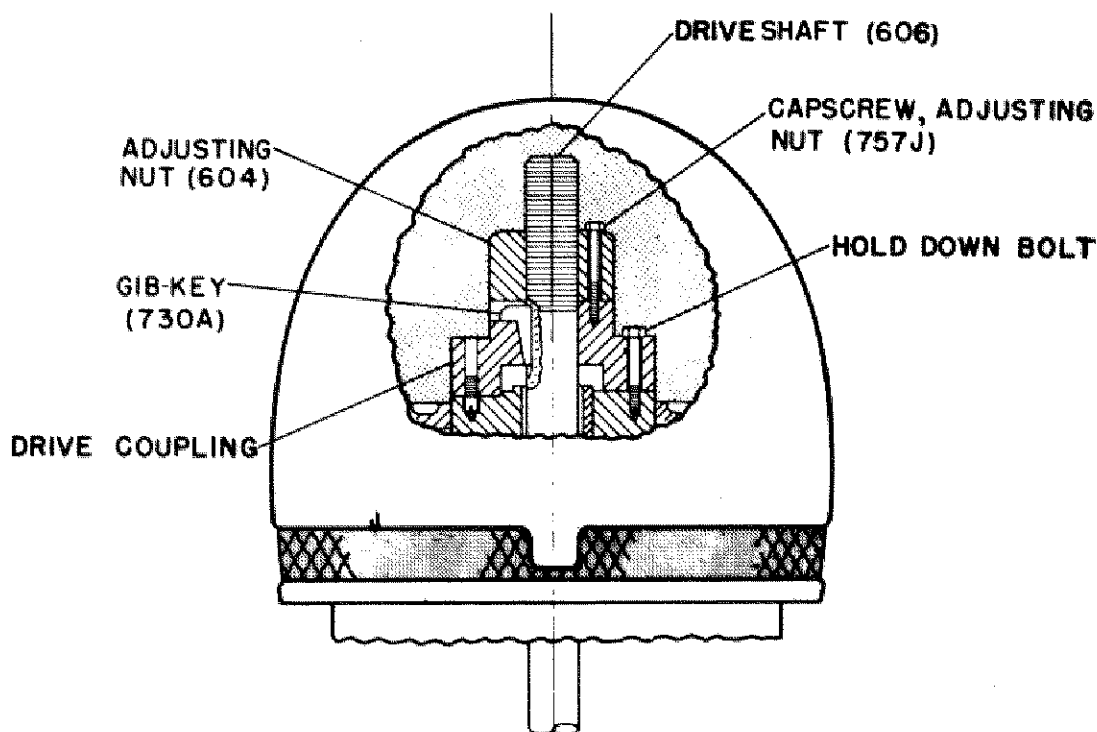
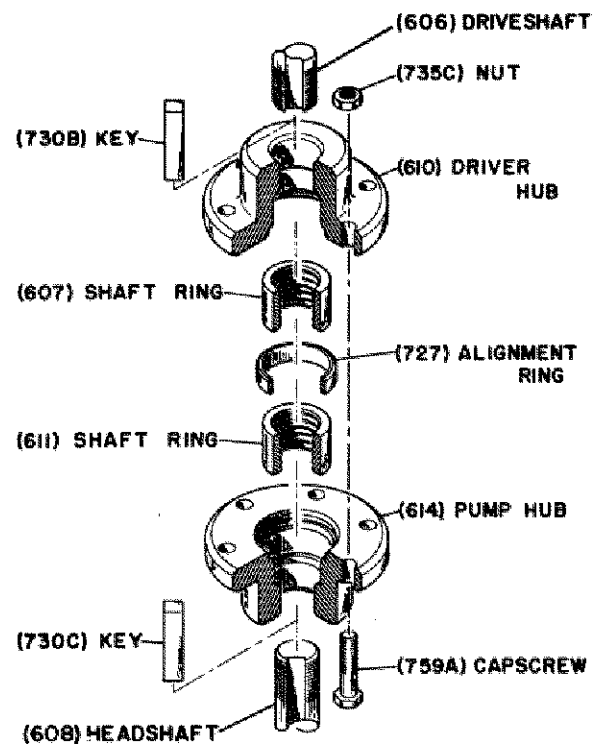
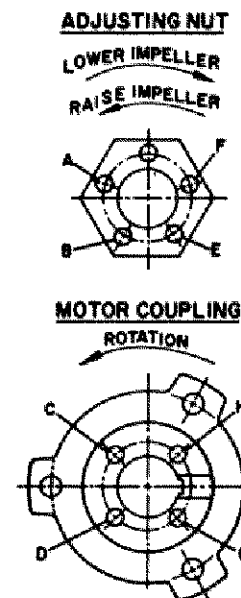

FIGURE 10-2. HOLLOW SHAFT ADJUSTING NUT
FIGURE 10-3. RIGID COUPLING
FIGURE 10-4. IMPELLER ADJUSTMENT
F. Slip on drive coupling. (See Figure 10-2.) Apply a thin film of oil on gib key (730A) and install key. Key shall be a slide fit allowing adjustment of the driveshaft by means of the adjusting nut. Secure drive coupling, see that the drive coupling is properly seated. Lubricate bottom of adjusting nut (604) and install.
D. Disassemble the coupling (if assembled) and slide driver hub (610) onto the driveshaft with
key (730B) in place. Thread ring (607) onto the driveshaft and slide driver hub over ring. (See Figure 10-3.)
E. Thread ring (611) onto the headshaft (608). Install alignment ring (727) on pump hub (614) groove, slide pump hub over ring and key (730C).
F. Secure driver hub (610) and pump hub (614) together with capscrews and nuts provided.
10-7. IMPELLER ADJUSTMENT (See Figure 10-2.) Adjustment is accomplished by turning adjusting nut (604).
2. With impellers touching bowl faces, turn adjusting nut (604) counterclockwise until face of adjusting nut makes contact with motor coupling.
3. Align hole "A" in adjusting nut and hole "C" in motor coupling (See Figure 10-4.)
5. Continue to turn adjusting nut (604) and align holes "E" and "G" impellers are raised 2/20 turn or 0.008 inch. Where holes "F" and "H" align, adjustment is 3/20 turn or 0.012 and so on.
J. Slip on driver coupling. (See Figure 10-2.) Apply a thin film of oil on gib key (730A) and install key. Key shall be a slide fit allowing adjustment of the driveshaft by means of the adjustment nut. Secure drive coupling, see that the drive coupling is properly seated. Lubricate bottom of adjusting nut (604) and install.
10-10. IMPELLER ADJUSTMENT—OPEN OR ENCLOSED. Adjustment is accomplished by turning adjusting nut (604). (See Figure 10-2.)